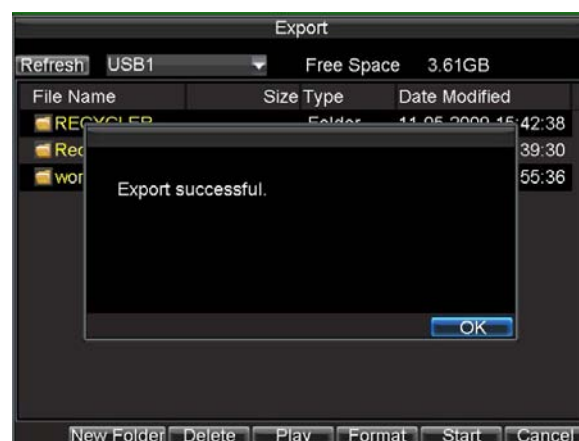

Figure 5. Export Successful Screen
8. After the backup process has completed (Figure 5), you may select the files from your device and click the *Play* button to verify that it has been exported successfully.